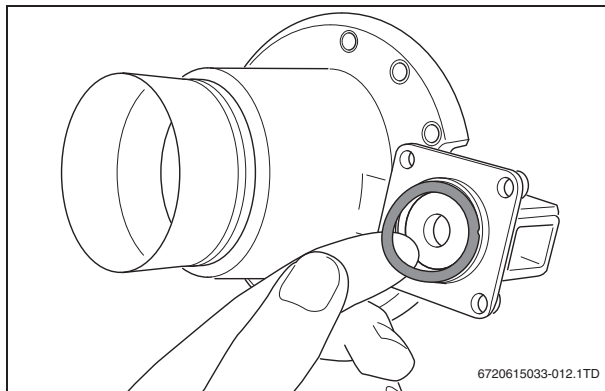

Fig. 11 Placing a new O-ring on the gas valve
- Install a new O-ring (→ fig. 11).
- Install the venturi and gas valve of the conversion kit on the fan unit using a new O-ring (→ Fig. 11) and follow the instructions above in reverse order.